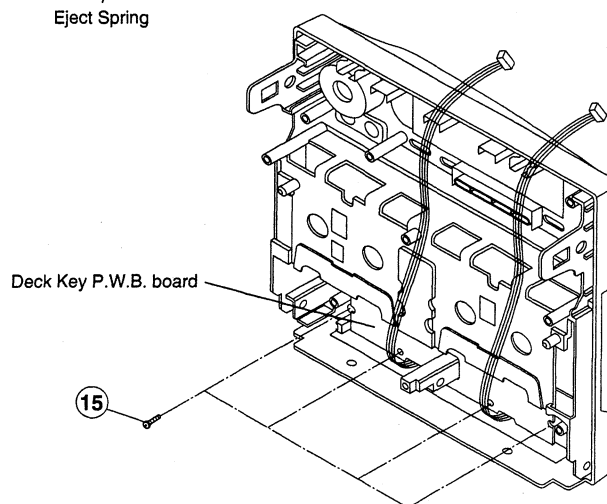

Fig. 13
- (1) Gently, squeeze together the bottoms of the cassette door latches. When the latches are free of the restraining holes, remove the cassette door by pulling it forward.
13. Removal of Deck Key P.W.B. Board (Fig. 13)